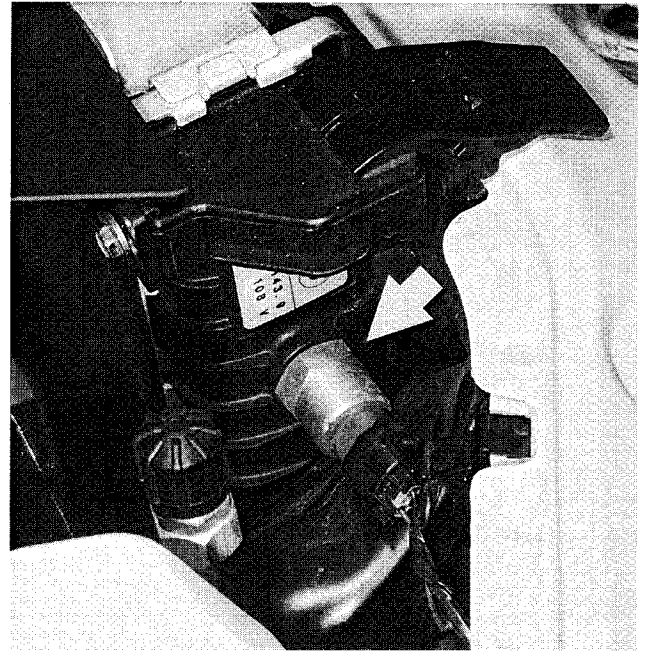

Fig. 20. Cooling fan dual temperature switch (arrow) on right side of radiator.
4. Disconnect harness connector from auxiliary fan dual temperature switch. See Fig. 20.